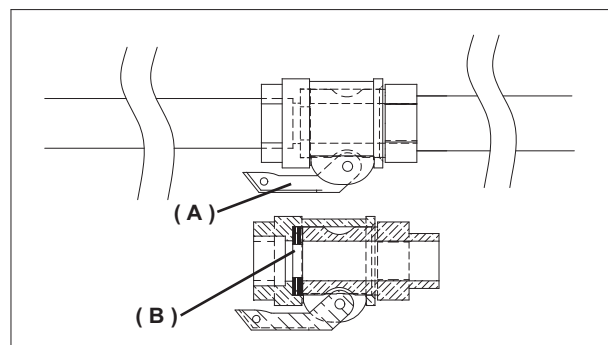

FIG.6a
After positioning the machine, prepare a bucket with a quantity of approx. 10l. of grout. Pour the grout into the machine hopper, or, in the case of using colorant products, directly in the machine pipelines before connection. In the latter case, pour approx. 10l. of coloured product into the hopper. Check the material hoses to ensure perfect condition, that couplings are intact and the relative seals are fitted, then connect them to the delivery manifold and spray jet. Check that the cam levers (A) of the couplings have been tightened correctly and that the seal (B) is fitted as shown in fig. 6a.